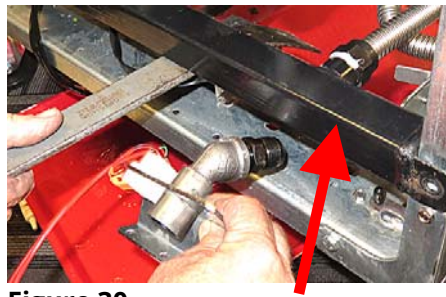

Figure 30
33. Using a prybar, lift the oil manifold up slightly to allow the oil dispose assembly 1087707 to slide in between the gas and oil manifolds (see Figure 30).